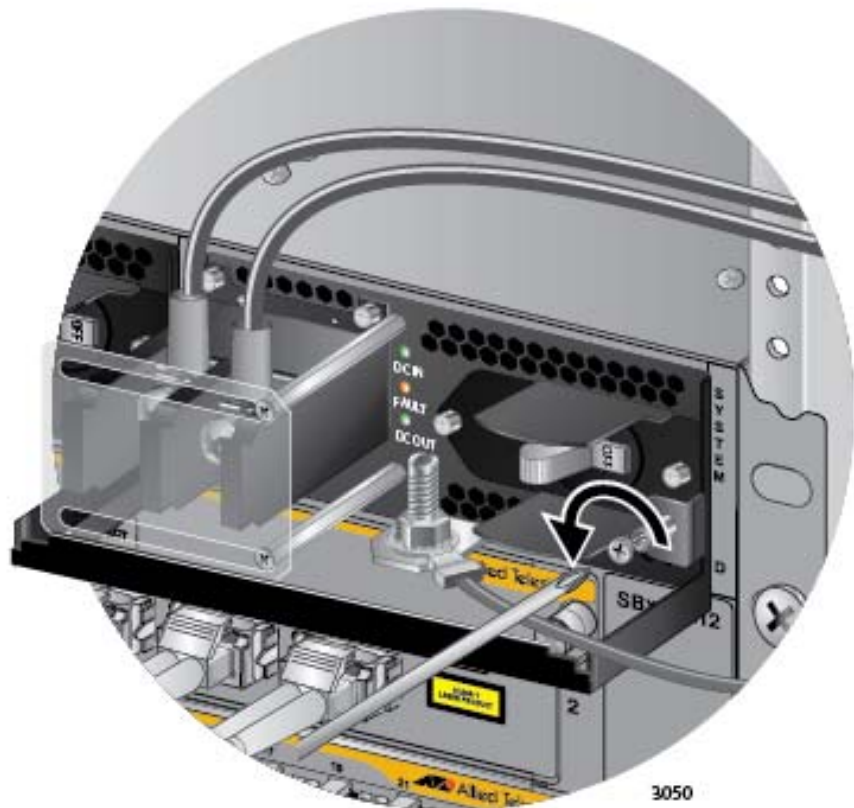

Figure 145. Loosening the Screw on the Locking Handle
3. Use a #2 screwdriver to loosen the screw on the locking handle. Refer to Figure 145.